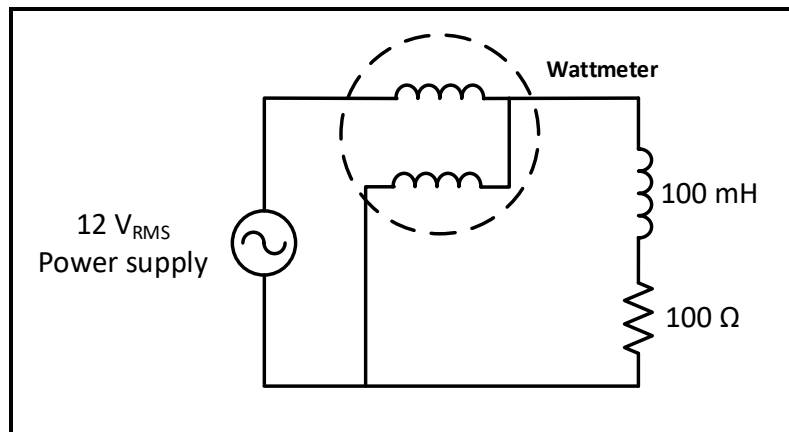

Figure 10.9
1. Connect the circuit of Figure 10.9, with the output of the power supply set to 12 V_{RMS}.